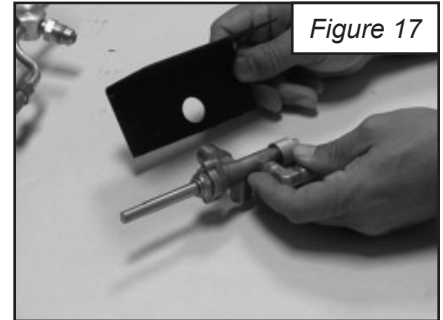

Figure 17
1. Slide the hole in the heat shield over the 3/8" NPT threads on the Gas Control valve (Part # 3). (See Figure 17)
Turn Control Knob to **Pilot** Position (Figure 17), push knob fully in and hold a long lighted match at the Pilot Burner Assembly. After lighting the Pilot, hold the Control Knob in the ignition position for approximately 45 seconds. This is an adequate time for the Thermocouple to reach an operational temperature in order to keep the Pilot lit once the Control Knob is released. If the Pilot does not remain lit, turn the Control Knob to the Off position, **wait 5 minutes**, then repeat the process as outlined above.